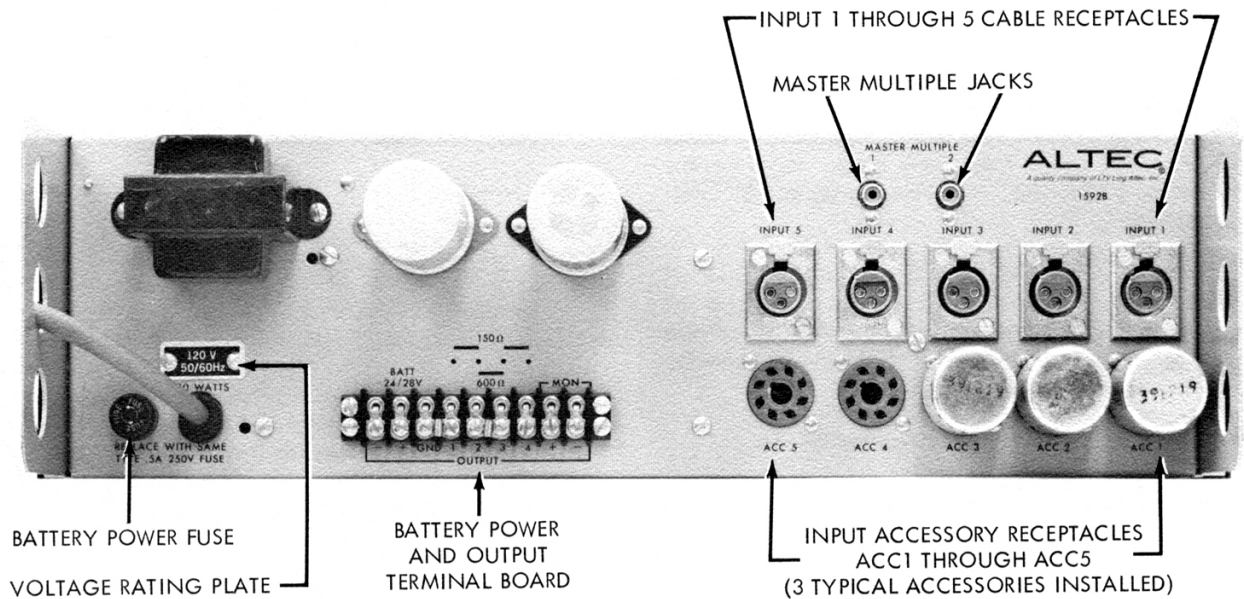
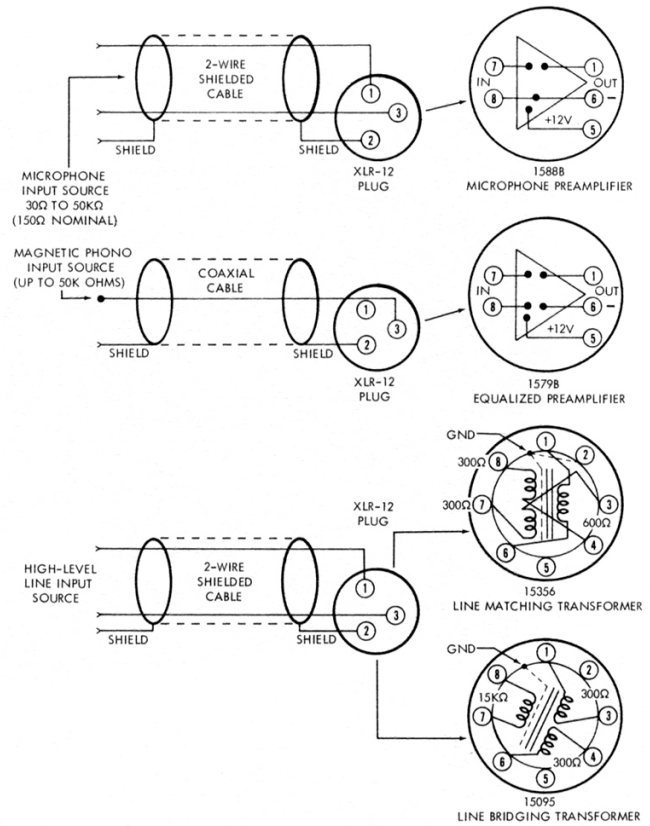
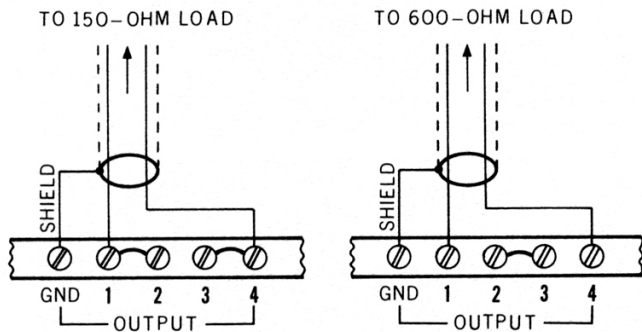

Figure 5. Rear View
Figure 7. Input Wiring for Various Applications
Figure 9. Output Wiring Connections
- Step 4. Remove voltage-rating plate from chassis, reverse and reinstall to show 240V rating (see Figure 5).
Equipment supplied for domestic use is provided with the power transformer primary strapped for 120 volts (terminals 1 to 2 and 3 to 4 on TB2). The power input nameplate, adjacent to the power cord on the chassis, is mounted to show the appropriate side specifying the connections (see Figure 5). Verify that line voltage is in accordance with the voltage rating before connecting primary power.
If desired, the 1592B may be connected to an external 24/28V dc battery with minus (-) as ground. Terminals for the dc power connections are on the OUTPUT terminal board (see Figure 5). If ac power fails, transfer to dc power is instantaneous, automatic and silent.
Inputs to the mixer channels are connected on the chassis at connectors INPUT 1 through INPUT 5 (see Figure 5), with cables terminating in XLR3-12 type plugs. Appropriate internal wiring is shown in Figure 7 for these plugs. Input for any channel may be microphone, magnetic phono, or high-level line sources.
Transformer-isolated output connections are provided at the OUTPUT terminal board on the chassis (see Figure 5) for a load impedance of 150 or 600 ohms. Figure 9 shows wiring connections. Jumpers are connected between terminals 1 and 2, 3 and 4 for 150 ohms and between terminals 2 and 3 for 600 ohms.
Two MASTER MULTIPLE jacks (see Figure 5), independent of all gain controls, enable combining additional amplifiers or mixers into one system. Two or more 1592B Mixer/Amplifiers may be combined as shown in Figure 10A. A single coaxial cable with pin tip phone plugs connects each amplifier. Either MASTER MULTIPLE jack may be used for interconnection.